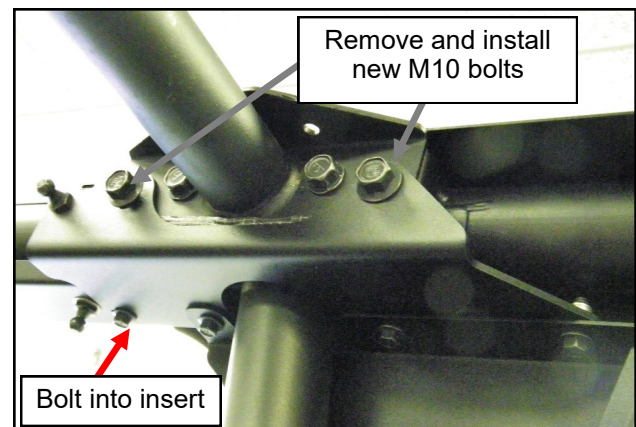

Fig. 8.2 Canopy gas spring bracket
- 8.2 Per figure 8.2, remove the (2) M10 bolts at the center ROPS cross tube, the farthest to the front and rear, from the left (driver's side) end of the cross tube. Place the left gas spring bracket against the ROPS as shown and secure it with new, longer M10 bolts and leave loose.
- 8.3 Per figure 8.2, insert one 1/4-20 bolt through the mount and into the insert in the header and leave loose. Install (3) 1/4-20 bolts through the B-pillar upper flange into the threaded inserts in the gas shock bracket and leave loose.